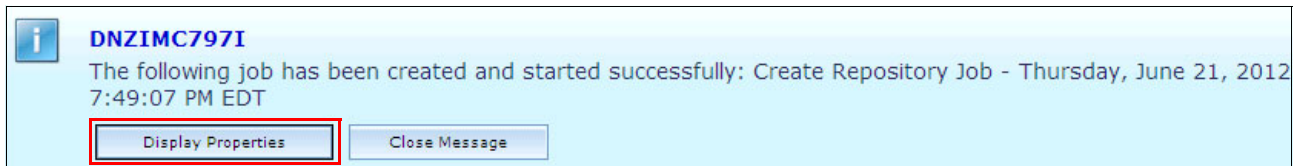

Figure 9-55 Display Properties window
8. A blue information window opens as shown in Figure 9-55. Click **Display Properties**.